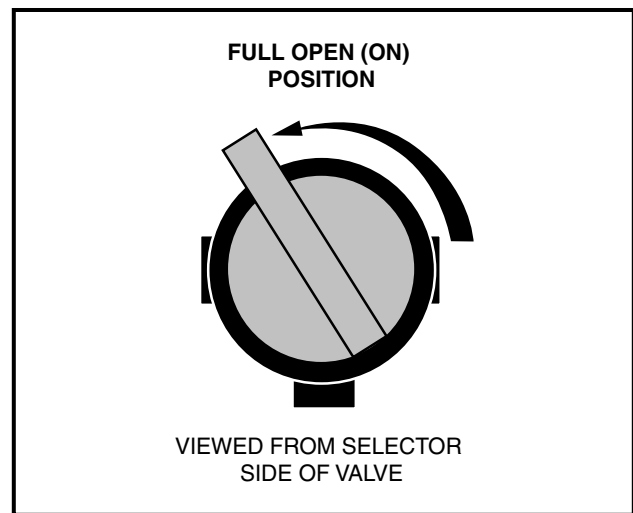
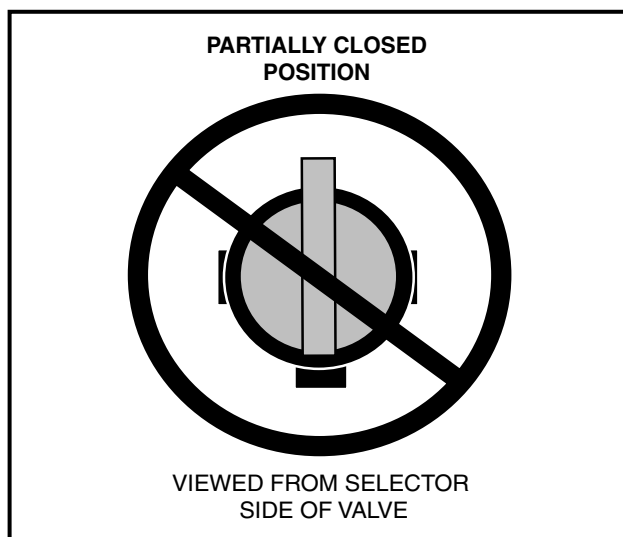

Figure 14-23 Open Fuel Shut-off Valve
Figure 14-24 Incorrect Fuel Shut-off Valve
11. Check to be sure the fuel shut-off valve on top of the gas tank is in the open (ON) position (**Figure 14-23, Page 14-31 and Figure 14-24, Page 14-31**).
The valve's open position differs from standard valve configurations. For the valve to be fully open, it must be turned approximately 120° from the closed (OFF) position (until it cannot be turned any further) (**Figure 14-23, Page 14-31**). If the valve becomes partially closed, (**Figure 14-24, Page 14-31**), the engine will not run properly due to fuel starvation.